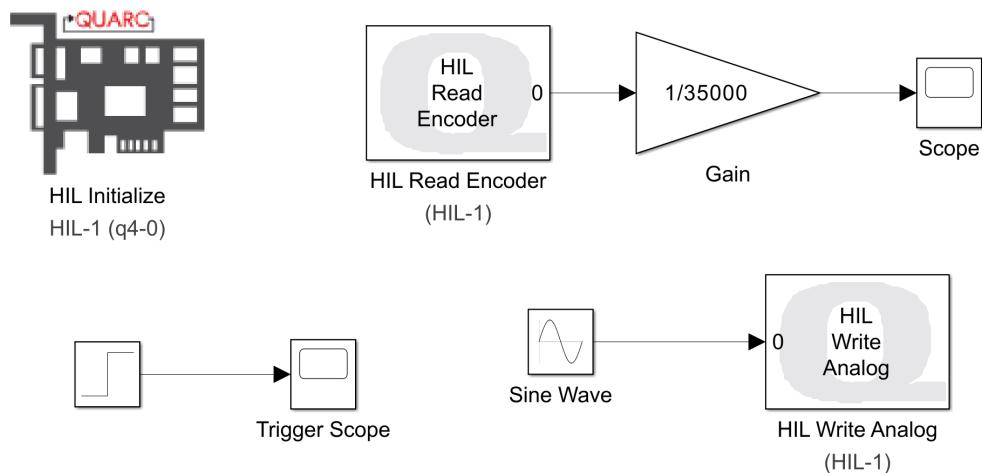

Figure 12: SIMULINK Loopback System
1. Generate the SIMULINK diagram shown in Figure 12. The Sine wave should have a relatively low magnitude of around 0.75 and a frequency of around 1 Hz.